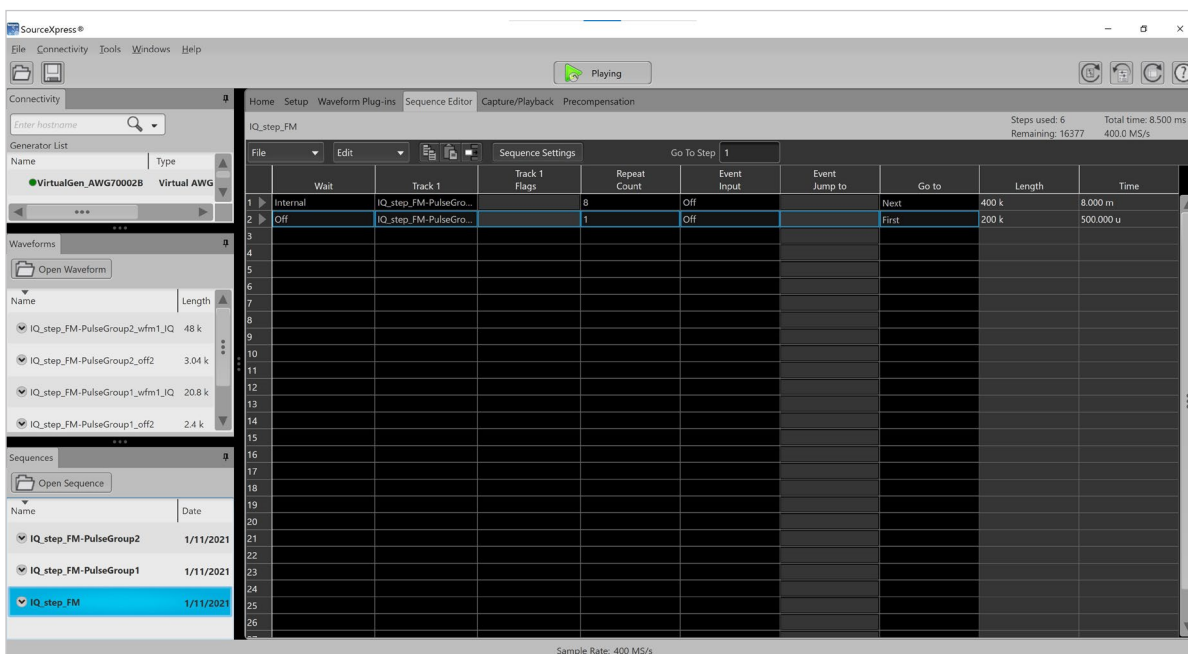

Figure 17: Baseband IQ example main sequence.
- a. Figure 17 - Baseband IQ example main sequence